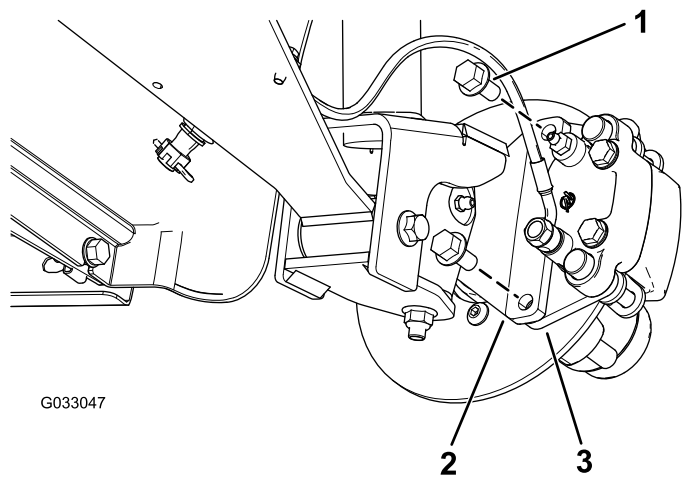

**Figure 30**
2. Remove the 4 lug nuts that secure the wheel to the hub (Figure 30).
4. Align the holes in the wheel to the studs of the hub and assemble the wheel to the hub with the valve stem outward (Figure 30).
5. Secure the wheel to the hub using the lug nuts (Figure 30).